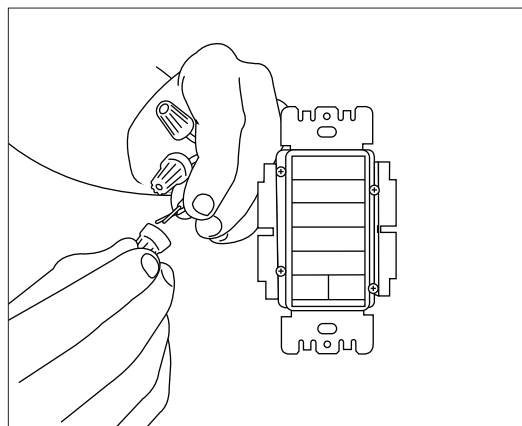

fig. 5
5. Using the provided wire nuts, attach each X2 lead wire to the corresponding conductor. Black-Line, White-Neutral, Green-Ground (see figure 5).